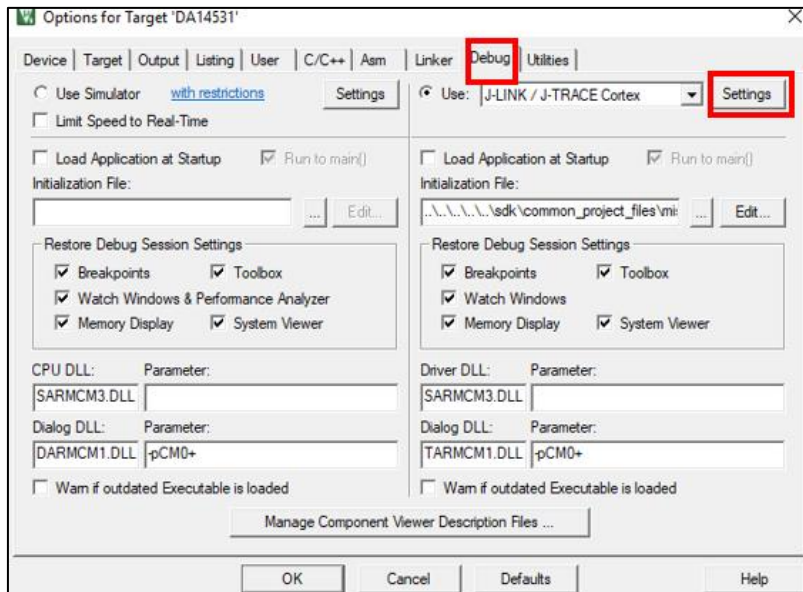

Figure 12: Keil – Debug
8. Select the **Debug** tab and click **Settings**. See Figure 12.